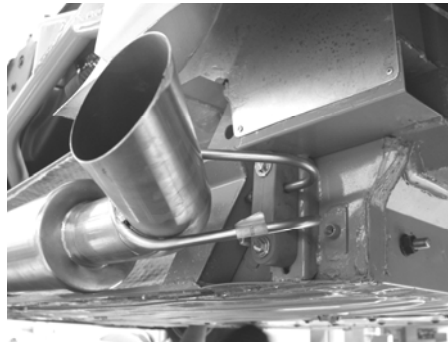

Figure 9
2. Place a clamp over the expanded end of each turnout assembly and set them into position sliding over the outlet of each muffler assembly. Install the hanger located on the turnout assembly into the rubber bracket as shown in figure 9. DO NOT tighten the clamps.